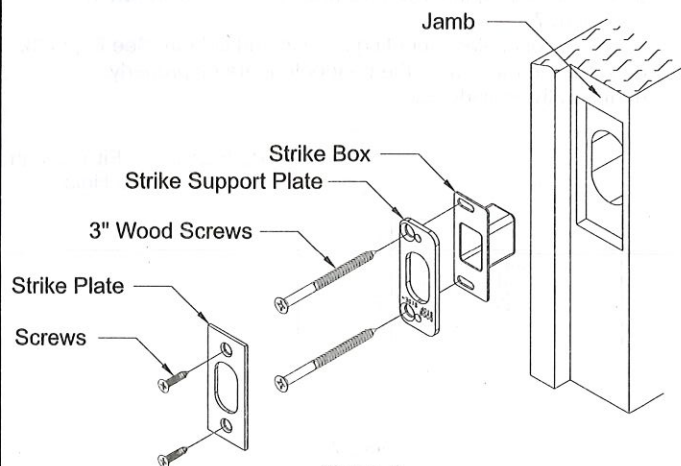

Figure 4
- Using the strike as a guide, mortise the jamb, then install the strike box, strike support plate, and strike plate with screws. See Figure 4.